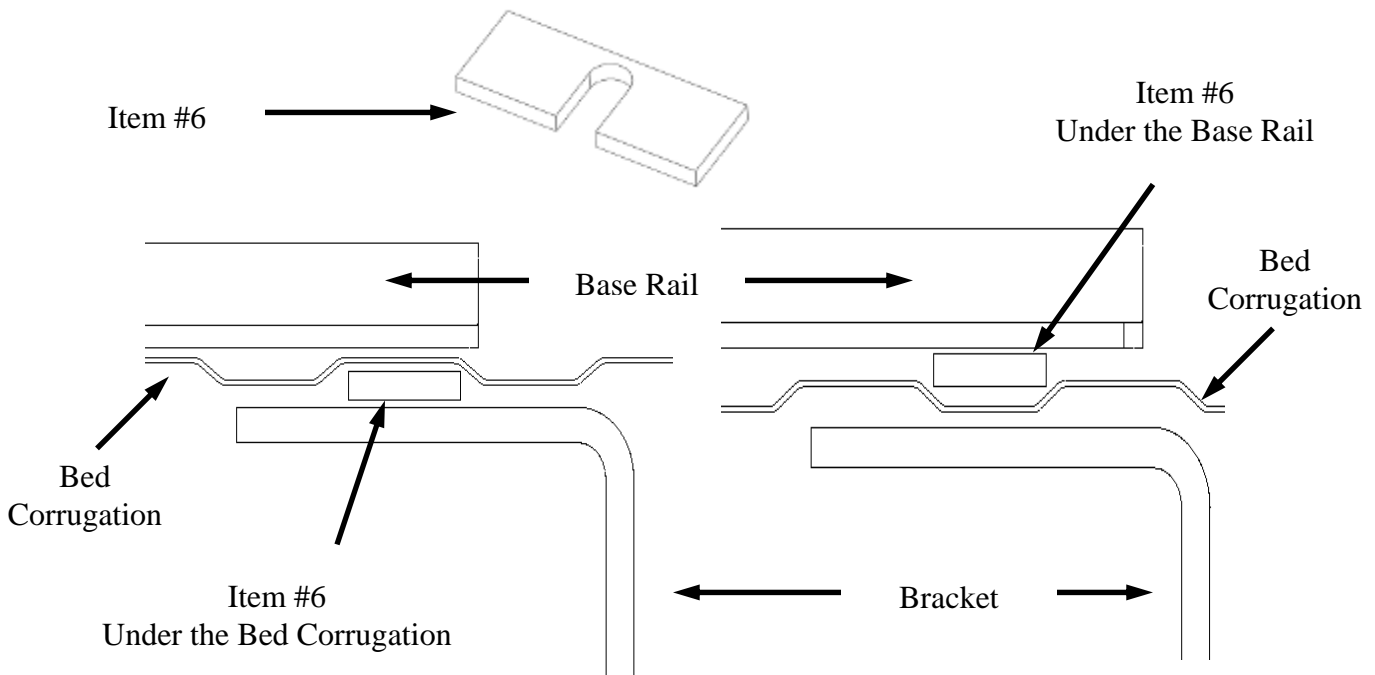

Figure: 7
7. If the bed corrugation above the angle bracket is **UP**, leaving a space above the angle bracket, place a spacer plate, item #6 in the location as shown in Figure 7. If the corrugation is **DOWN**, at this location, place a spacer plate, item #6, in the bed, under the base rail as shown.